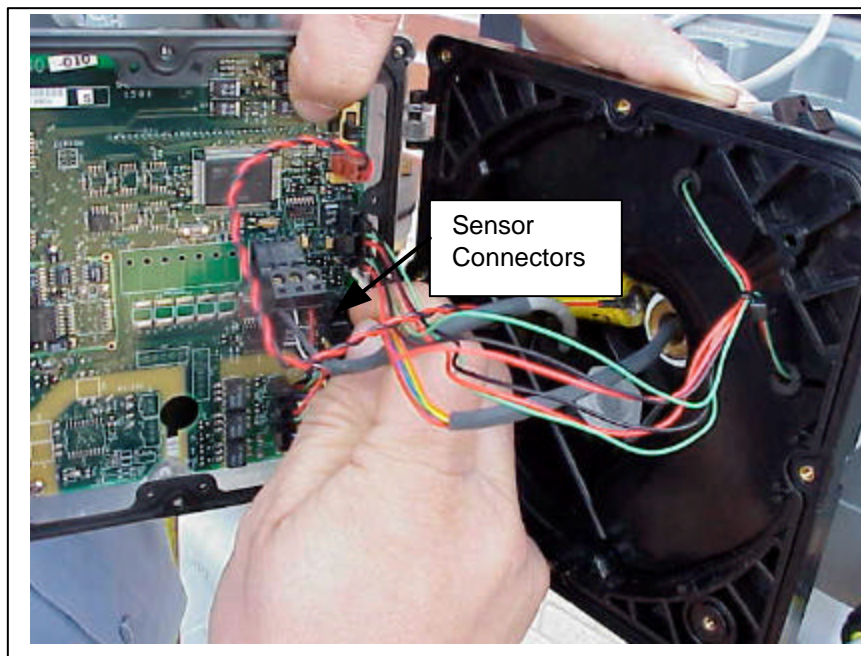

Figure 7.8 Sensor Connections
5. Unplug the two sensor connectors. See Figure 7.8